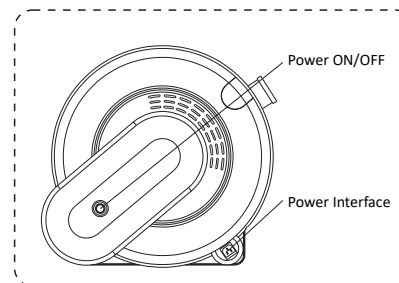

Figure 7.1.2
a) One end of the power cord is plugged into the terminal board at the bottom support of the right side of the machine, and the other end into the socket of 220V/50Hz with reliable grounding. See fig. 7.1.2.
b) The power switch is located at the batter brace of the left side of the machine. See fig.7.1.2. It is the on/off switch of AEOLUS UC-1801- ICU.INCBATOR. When it is locked, all other keys are void; when it is unlocked, all other keys are valid.